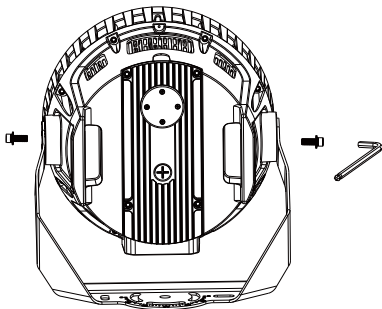

Figure 1
- 1: Fix the FM bracket to the heat sink with M10 screws (Figure 1);